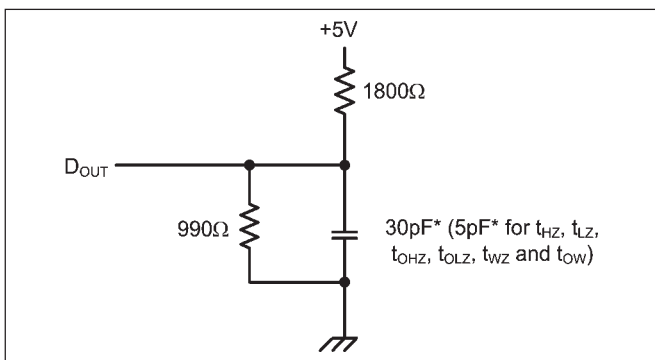

Figure 1. Output Load
4. Transition is measured ± 200 mV from steady state voltage prior to change, with loading as specified in Figure 1. This parameter is sampled and not 100% tested.
| Output Load | See Fig. 1 and 2 |